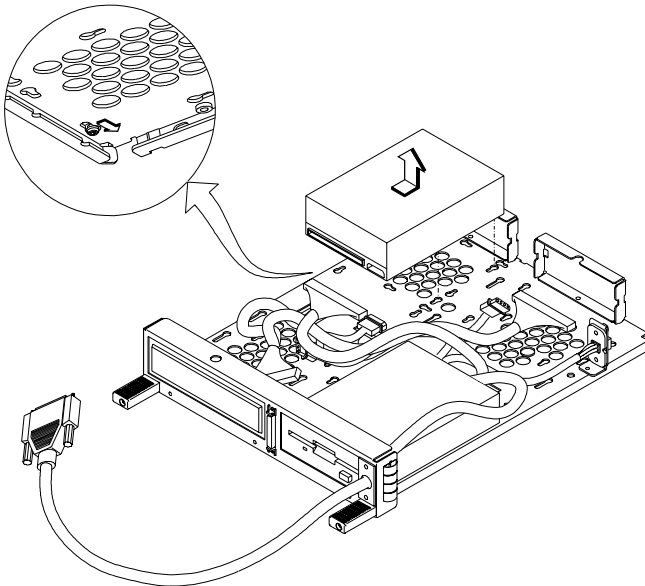

Figure 5-17 Mass Storage Device Removal
- 1 Slide screw heads towards large end of keyholes, remove device (see Figure 5-17).